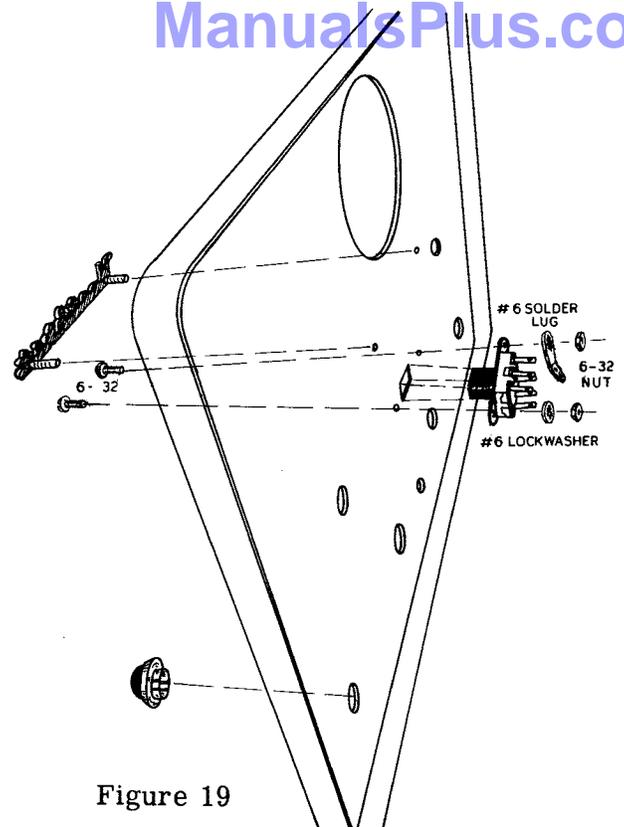

Figure 19
- () Mount the silver Logotype on the front panel by applying a hot soldering iron to the plastic pins on the rear side of the panel. See Figure 19. Hold the type tight against the panel and remove the hot iron once a small flat retaining bead has been formed next to the panel.
- () The meter switch is mounted with 6-32 x 1/4" screws using a #6 lockwasher under one 6-32 nut and a #6 solder lug under the other. See panel rear view in Figure 19.
- () Mount the pilot light jewel in the right hand hole marked "power". Bend out the small retaining tabs to secure it. See Figure 19.